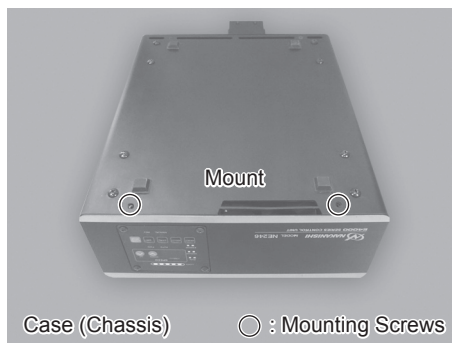

Fig. 50
- (14) Secure the Case (Chassis) to the CONTROLLER'S main body by using the Mounting Screws (2pcs. each) (Fig. 50).